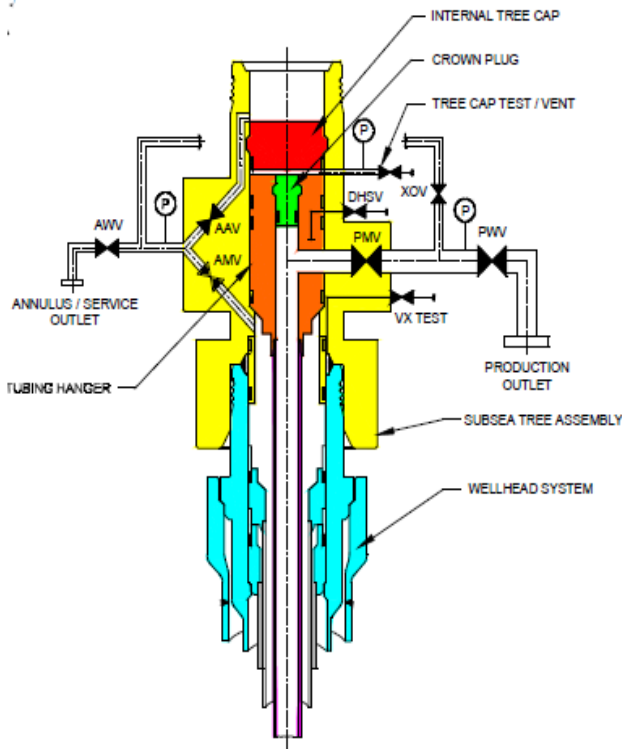

Figure 1a: Completed well
- 3 The following two **Figures 1a & 1b** are completed wells, which shows X-mass tree (Yellow) placed on wellhead system. What is the difference between these with regard to X-mass tree? Tell your reason.